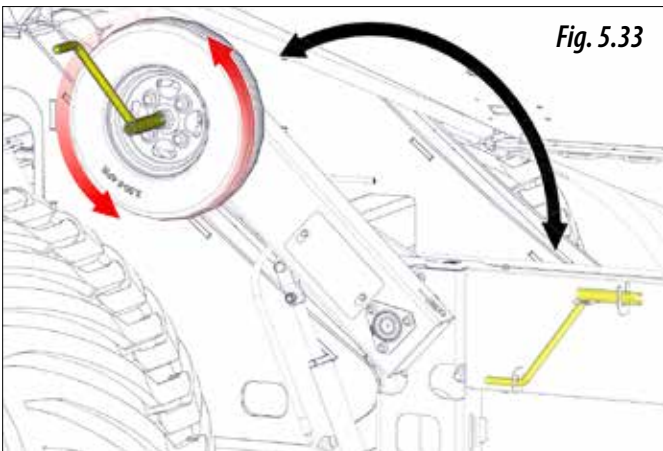

Fig. 5.33
4.A.4- Rotate the machine transmission to empty the product from the dispenser (Fig. 5.33).